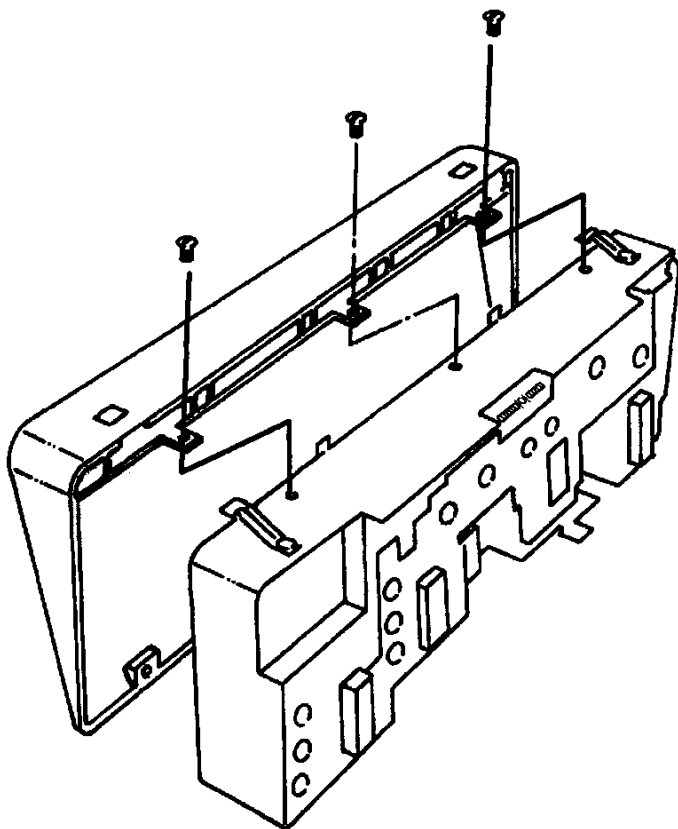

Figure 17 Remove Bezel Screws Fastening Bezel to Cluster Housing
1. With the cluster released from the dash panel (refer to INSTRUMENT CLUSTER, Remove), remove the three (3) bezel screws that fasten the bezel to the cluster housing (Figure 17). Place the instrument cluster face up on a clean, horizontal surface to prevent loss of unused gauge covers, gauges, etc.